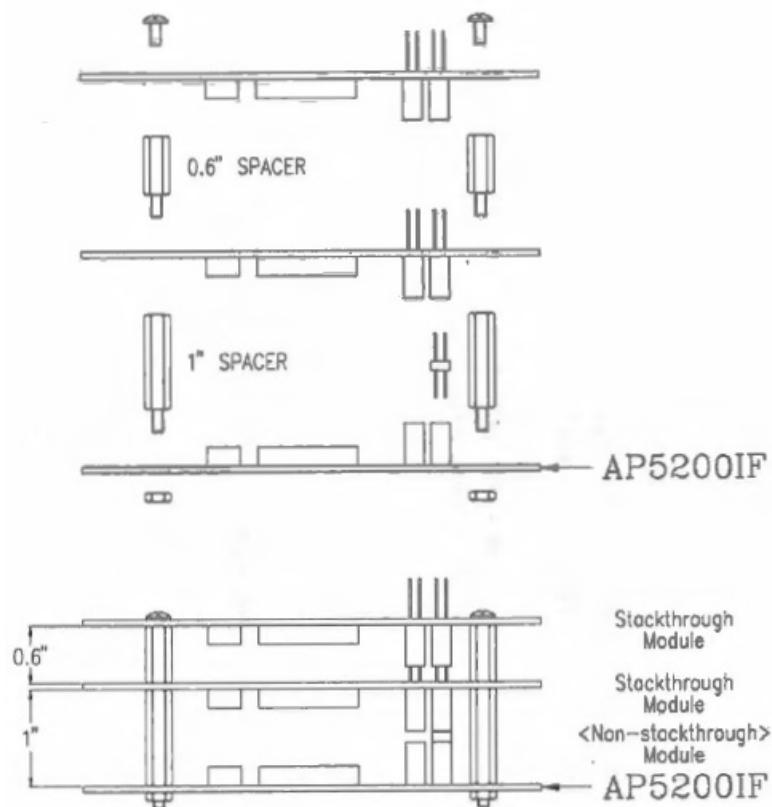

Figure 2. Typical Module Stack
- Figure 2: Illustrates a typical module stack of 8 bits or 16 bits modules (The 8 bits module on J2 connector)